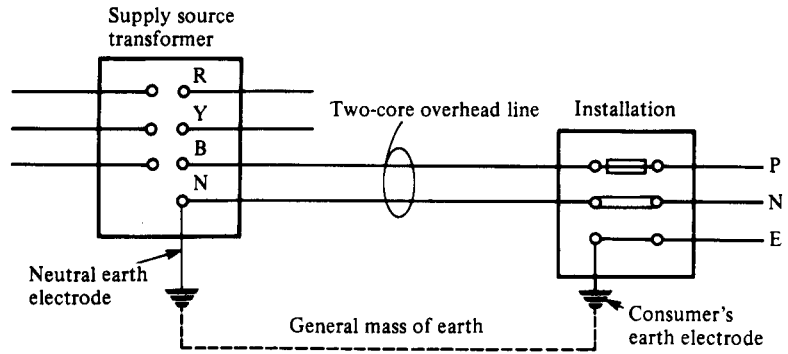

Fig. 16.7 TT system
- 1 A TT system has a direct connection of the supply source to earth and a direct connection of the installation metalwork to earth. An example is an overhead line supply with earth electrodes, and the mass of earth as a return path (Fig. 16.7).